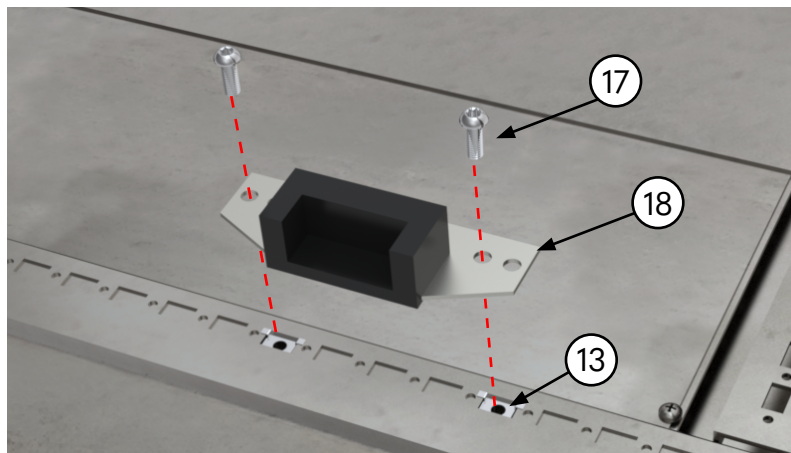

Figure 9
- From the right side of the enclosure, install the supplied cage nuts (Item 16) into the 5th and 9th cut-outs on the bottom frame. Insert at a 45° angle and seat flat against the frame with the flanges facing the enclosure sides. Refer to Figure 9.
- Install the T30 button head screws (Item 17) and tighten. Refer to Figure 9.